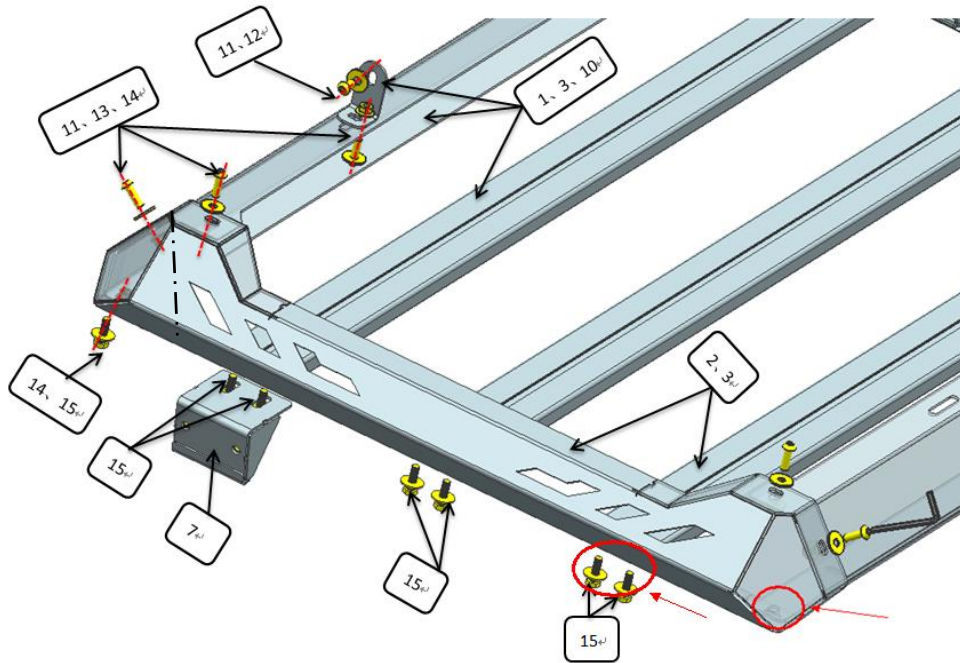

Fig1.
Step 1: Assemble roof rack with accessories, as FIG1 shown, notice do not install three holes in red frame, they need to connect with bracket as step 2 (Both sides are in the same installation way)